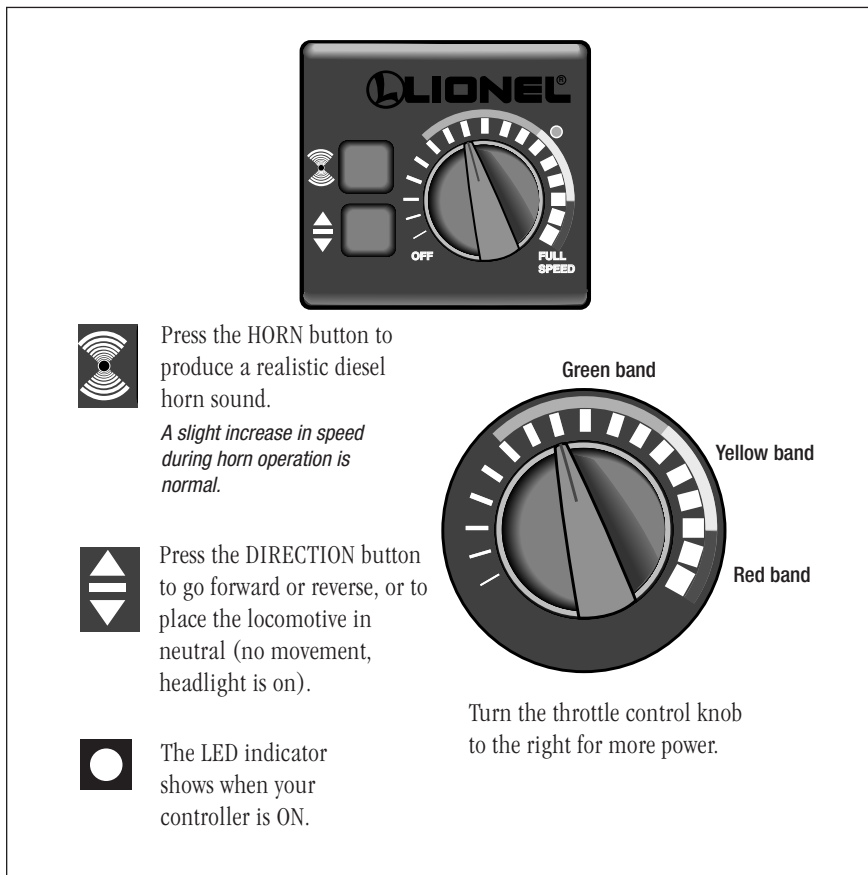

Figure 4. Transformer operation
**A**s you turn the throttle control knob to the right, power to the track is increased. Figure 4 illustrates the throttle control knob settings. When the indicator reaches the green band, there should be sufficient power to operate the locomotive. The further into the green area the knob is turned, the faster your train will go. Remember that the greater the load on the engine (adding more cars for the engine to pull, for example), the farther into the green area the knob must be turned before it will operate the locomotive.